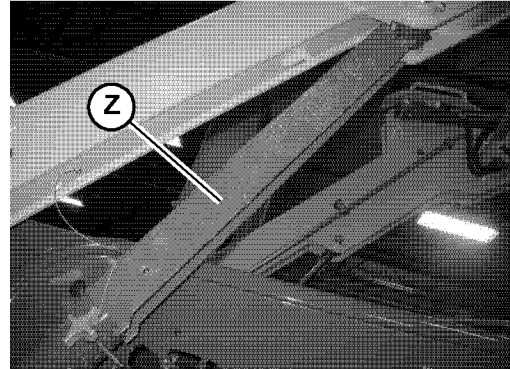

Fig. 89 – Lift Arm Support Removal
- a. Remove lift arm support (Z, Fig. 89) from the cylinder rod.